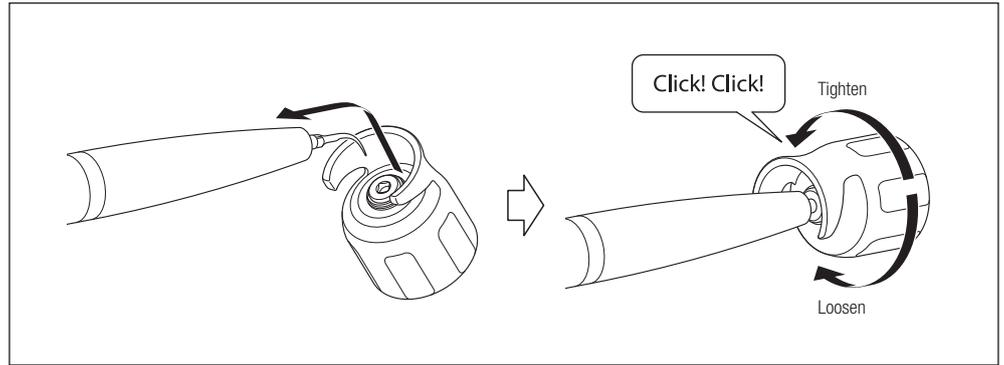

Fig. 16
- 3) Match the square shape of the Tip with the hole of the Tip Wrench, then insert the Tip into the hole. Rotate the Wrench until it makes a click sound and cannot rotate any further. During this procedure, hold the Handpiece so that the Handpiece Cord does not become twisted. When removing the Tip, rotate the Wrench in the direction of the "Loosen" arrow (Fig. 16).